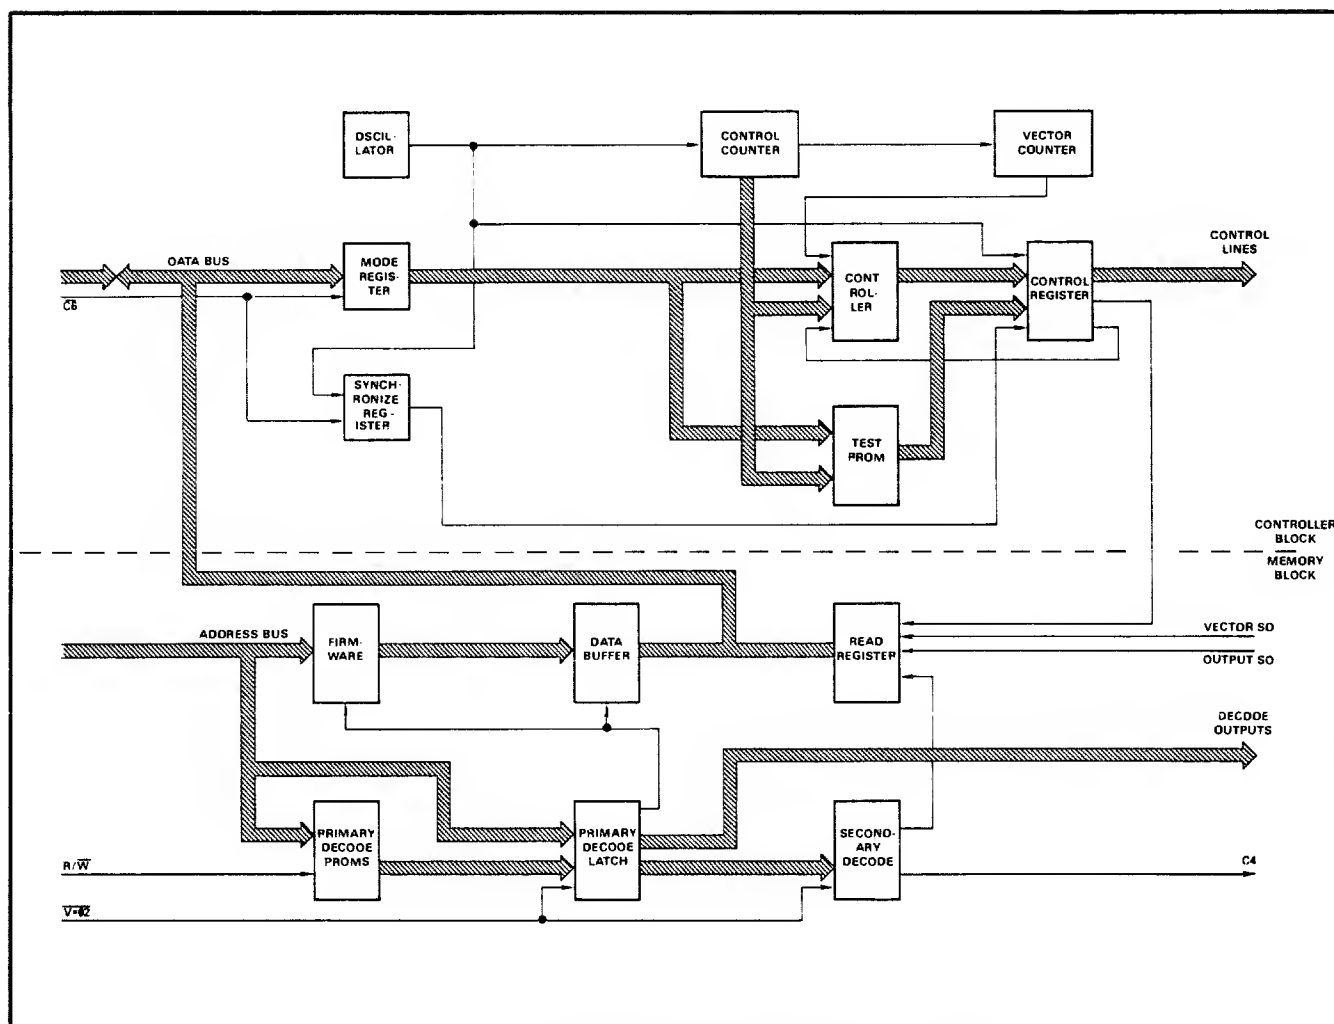

Figure 5-3. Controller/Memory (701-1942) Block Diagram
The controller/memory board (701-1942) has two functions: 1) it provides high-speed control operations that are not obtainable under processor operating speed, and 2) it contains the address decode circuitry that specifies the memory map for the base LogicPak™ and adapters. The block diagram of the controller/memory board is in figure 5-3. **Control function.** A high-speed controller is necessary to supplement the programmer's processor because of the large quantity of serial data that must be read during programming, verifying, and testing of logic devices; see the controller portion of figure 5-3.
**Memory function.** The two parts of the memory function are: 1) primary decode, and 2) storage of LogicPak™ firmware; see the memory portion of figure 5-3.